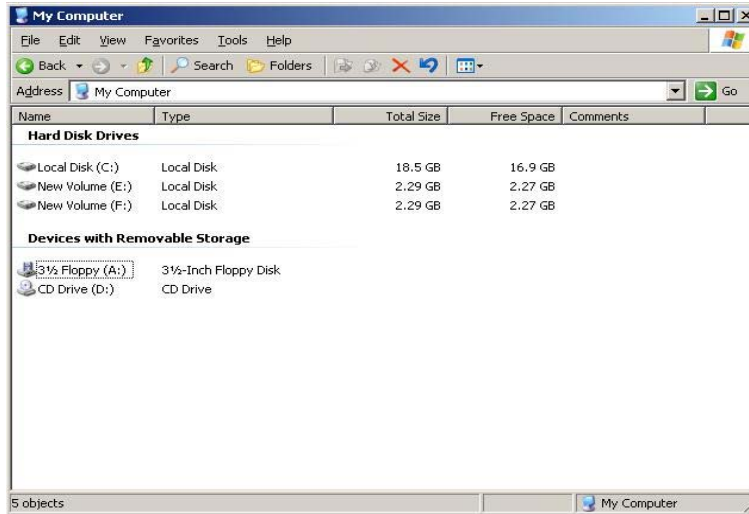

Figure 3.14 Displaying Connected Devices
1. From the Windows 2003 desktop, double-click **My Computer** to display all connected devices. All newly partitioned disks should display in this window (see Figure 3.14).